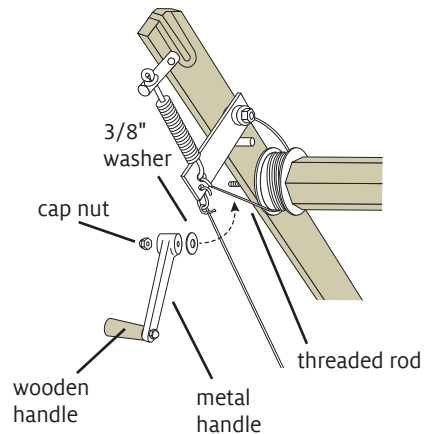

FIGURE 4: ATTACHING WARP BEAM CRANK HANDLE
- The warp beam crank handle attaches to a threaded rod on the inside right leg (Figure 4). Locate the washer, cap nut, and the warp beam crank handle in the accessory pack. Place the 3/8" washer and then the metal handle on the rod, with the wooden handle facing out. Secure with the 3/8" cap nut.